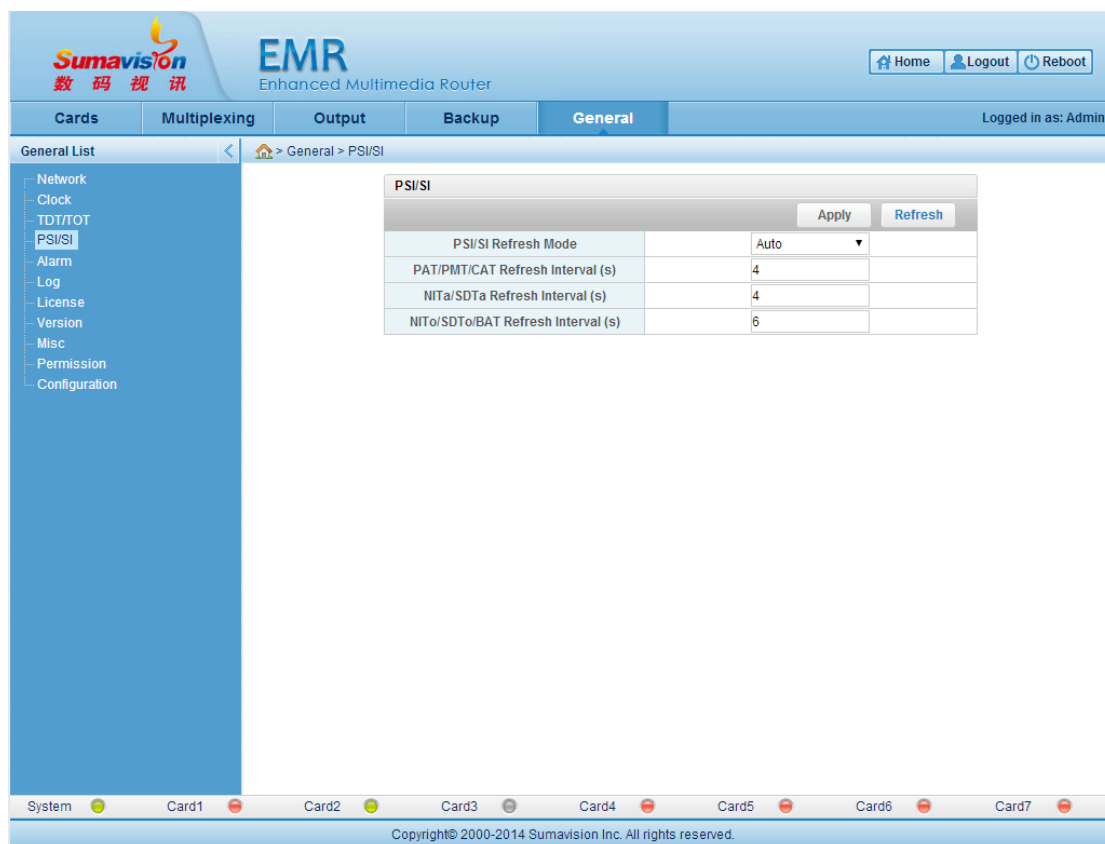

Fig. 5-6 WEB Management PSI/SI Configuration
- PSI/SI: this page is used for setting the EMR searching mode and the searching distance between tables. Click “Apply” to complete the setting, as shown in Fig. 5-6 WEB Management PSI/SI Configuration.